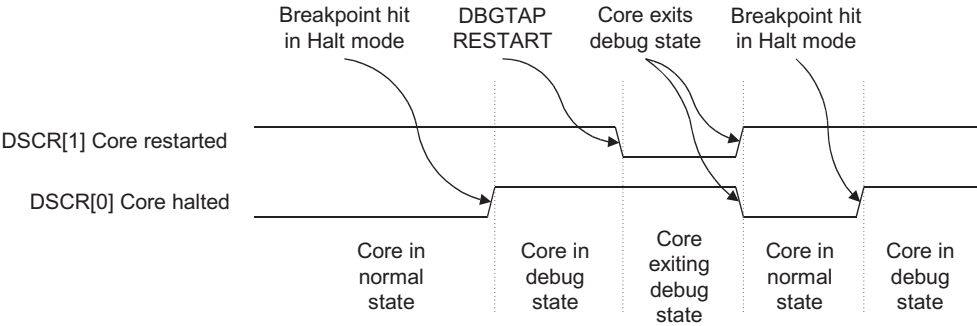

Figure 12-4 Core restarted bit and core halted bit
Figure 12-4 on page 12-10 shows the relationship between the core restarted bit and the core halted bit.
- b. See Figure 12-4 on page 12-10 for the relationship between the core restarted and halted bits.